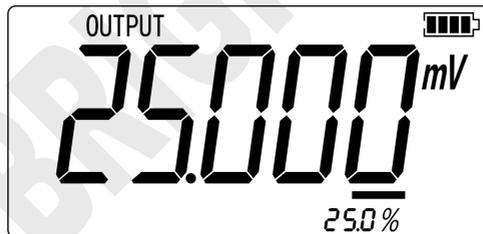

Figure 2.1-6
11. Press  or  to make output increase or decrease within the span of 0% to 100% based on 25% advance amplitude. The screen will display as shown in Figure 2.1-6.